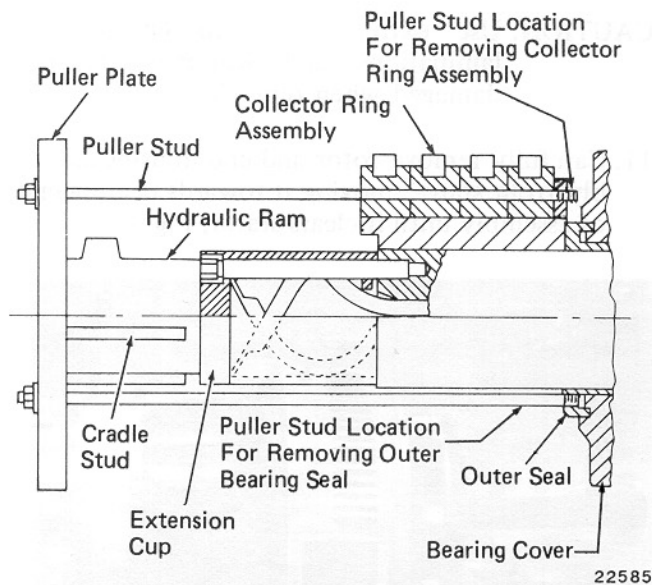

Fig. 5 - Collector Ring And Bearing Outer Seal Removal
- Remove four 3/8"-16 bolts securing collector rings to collector ring housing. These bolts are located on the collector ring face between the lead connection terminals. Place extension cup around field leads and bolt extension cup to rotor shaft as shown in Fig. 5.
- Install puller plate and puller studs to remove collector ring assembly, as shown in Fig. 5. Place hydraulic ram between extension cup and puller plate, supported by cradle studs of puller plate. Remove collector ring by applying hydraulic pressure to the ram. Make certain that puller is pulling equally on all studs to prevent damage to parts.
- Install puller plate and puller studs to remove outer bearing seal, as shown in Fig. 5. Place hydraulic ram between extension cup and puller plate, supported by cradle studs of puller plate. Remove outer bearing seal by applying hydraulic pressure to the ram. Make certain that puller is pulling equally on all studs to prevent damage to parts.